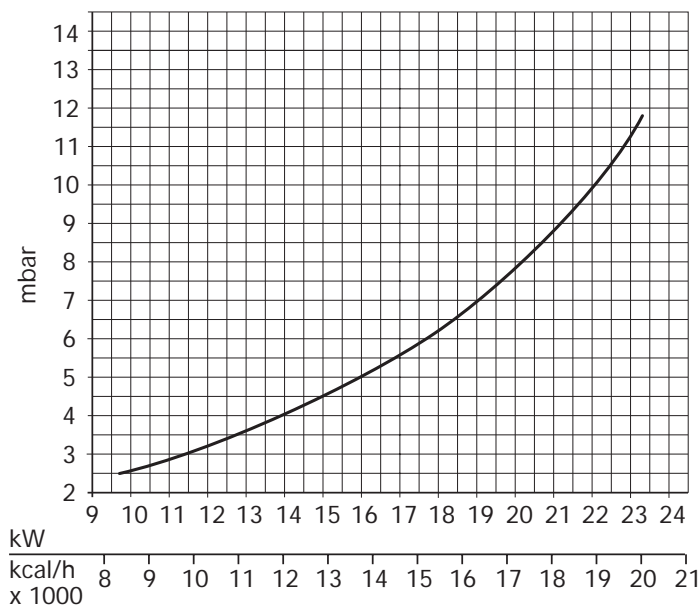

Fig. 4
N.B. - The gas pressures at the burner and gas flows during the central heating phase given in the table refer to nominal boiler output. To reduce this output (where necessary), gas pressure must be reduced until the required output level is reached (see figures 4 and 5).
To adjust boiler heat input (thus also regulating heat output to the central heating water) simply adjust the main burner via the electronic control board (fig. 4 and 5 and see paragraph 5.04).